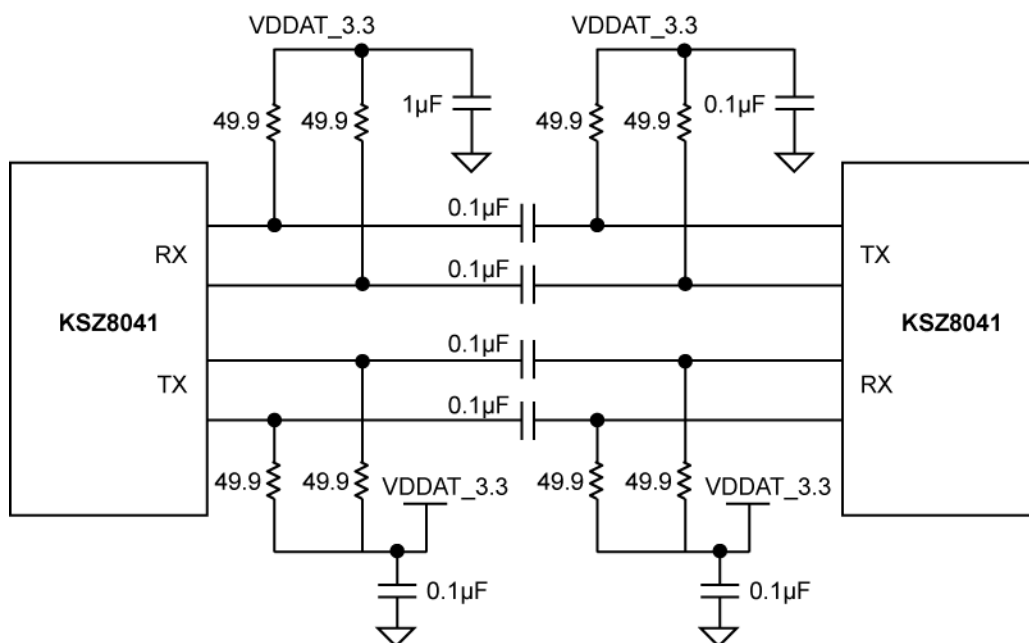

Figure 5. KSZ8041 Capacitive (AC) Coupling for Copper Ports
Figure 5 illustrates the capacitive (AC) coupling for the KSZ8041 family PHY transceivers.